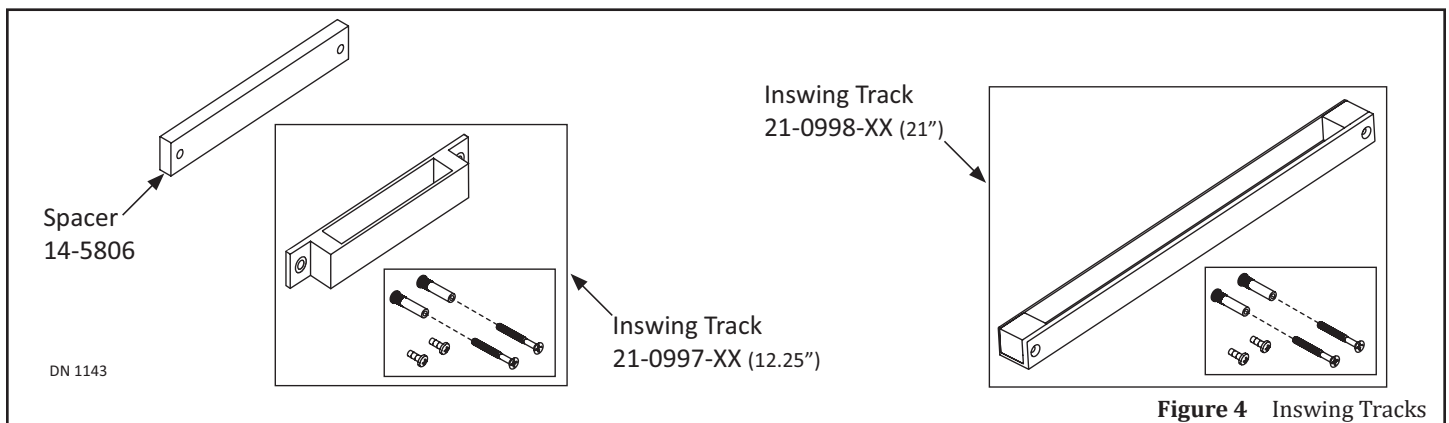

Figure 4 Inswing Tracks
There are (2) types of Tracks (12.25 inch and 21 inch). Track length depends upon Reveal and Arm Length with one exception, the 21 inch Track is used for emergency egress for all units except the GT 710-8710 unit. The GT 710-8710 unit does not have emergency egress capabilities due to the Hydraulic Motor Operator. The wheeled roller (located at the end of the Swing Arm) is placed inside the Track to allow the Swing door to fully open and close with one smooth motion. Please see Figure 4.